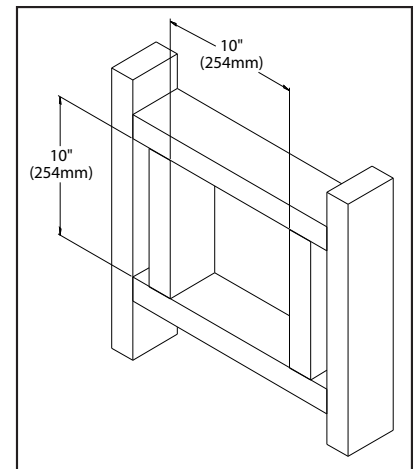

Figure 25: Wall Framing Hole for Horizontal Installation.
6. Frame the hole as shown in Figure 25.
3. With the pipe attached to the stove in the correct location, mark the wall for a 10" (25.4 cm) x 10" (25.4 cm) square hole (refer to Figure 25). The center of the square hole should match the center line of the horizontal pipe. Cut and frame the 10" (25.4 cm) x 10" (25.4 cm)